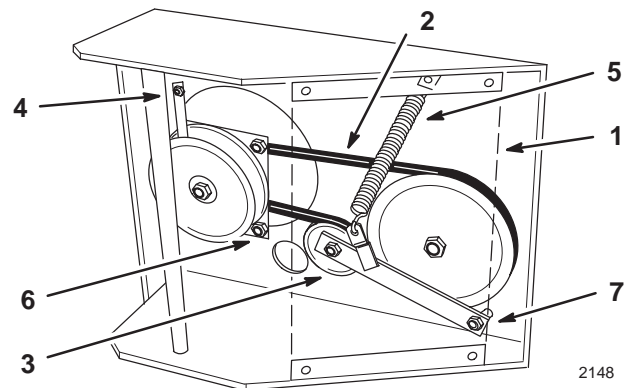

Figure 36
1. Raise the front of the machine and hold with jack stands. Remove lower shield (4) bolts.
2. Remove the lower shield (Fig. 36).
4. Remove left front engine mounting bolt securing clutch retainer to frame (Fig. 36). Unhook retainer from clutch and remove retainer.
5. Unhook tension spring from side of frame (Fig. 36).
8. Torque pivot bolt to 47-54 N•m (35-40 ft.-lb.) Install tension spring between idler arm and frame bracket (Fig. 36).